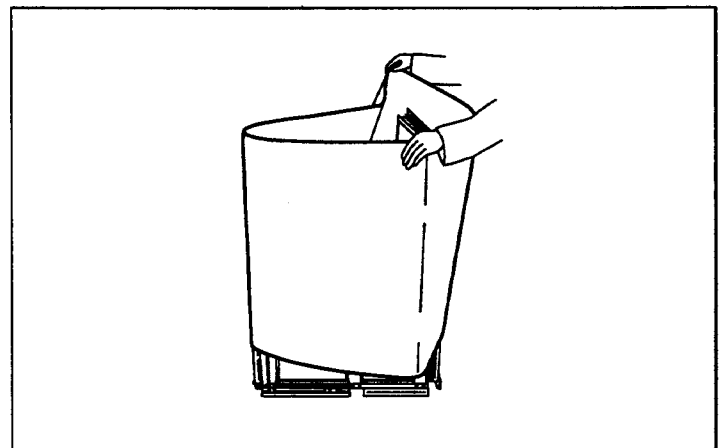

**Fig. 5-17**
- 9) Remove 4 nylon rivets shown in Fig. 5-17.